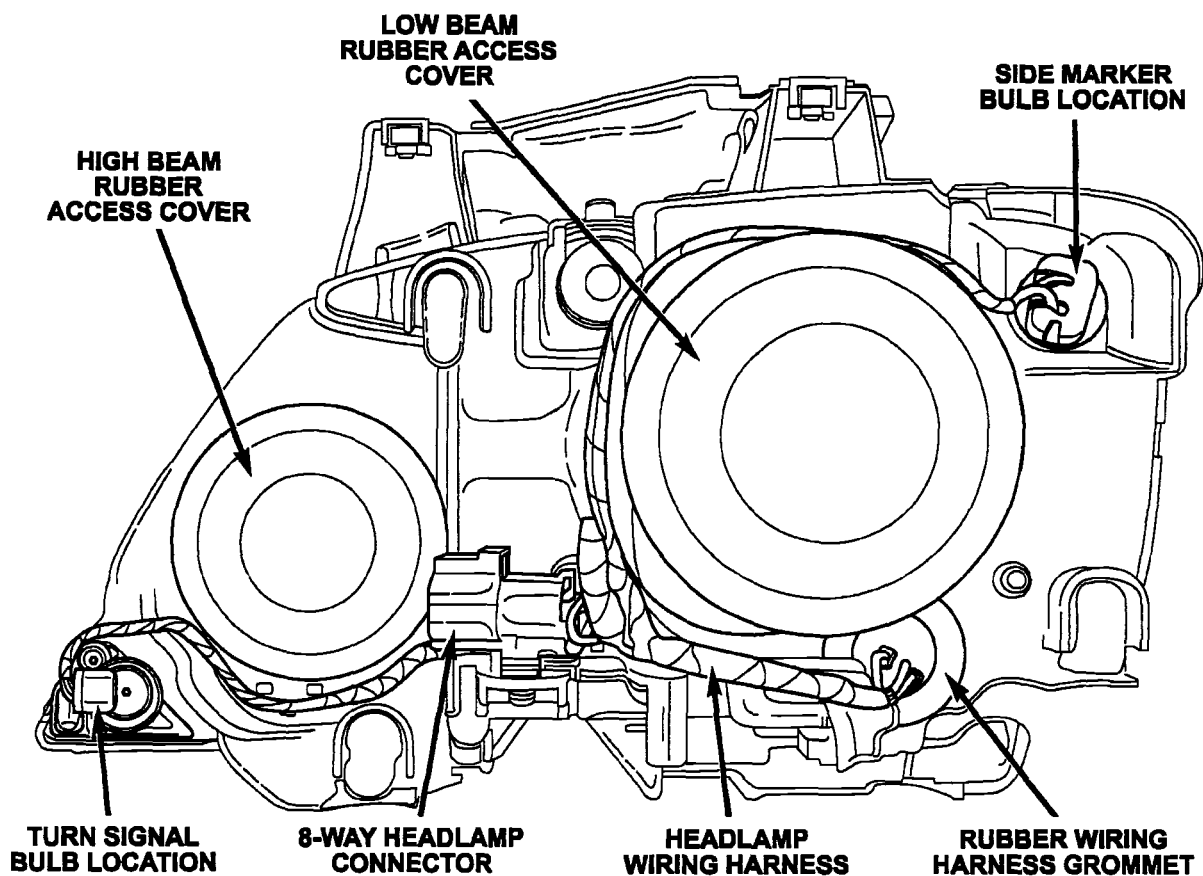

Figure 3 – Backside View of Headlamp Assembly
2. With the headlamp assembly face down, remove the headlamp high and low beam bulb rubber access covers (Figure 3).
7. Remove the turn signal bulb socket from the headlamp housing (Figure 3).
8. Remove the side marker light socket from the headlamp housing (Figure 3).